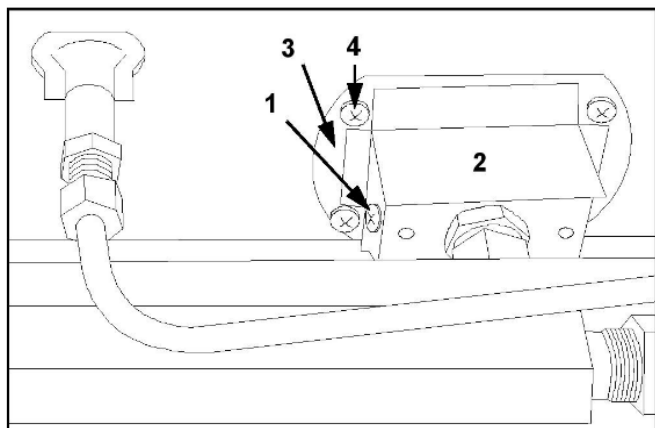

FIG.16 (Substitution of upper and lower burners)
- Remove the air-regulation burner (**FIG.16-Ref.2**) unscrew the screws (**FIG.16-Ref.1**) and slip it out;
- Unscrew the 4 screws (**FIG.16-Ref.4**) slip out the burner (**FIG.16-Ref.3**) and substitute it;